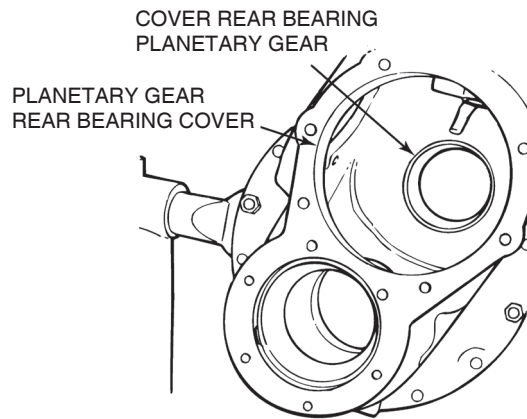

Figure 5.76
12. If removed, install the bearing cap for the rear side gear into the differential case. Use a press and a sleeve to install the cap into the differential case. If a press is not available, use a sleeve or a long, brass drift and a hammer to install the cap. The cap is correctly installed when the bottom of the cap is seated against the bottom of the bore. Figure 5.76.